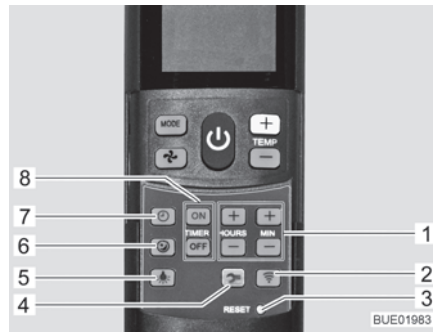

Fig. 149 Remote control with setting buttons (air conditioning unit)
Activating soft-start: ■ Press the soft-start button (Fig. 149,6). The fan then runs at low speed in cooling mode, which makes it especially quiet.
Setting the time: ■ Press the time button (Fig. 149,7).
■ Set the hours and minutes with the buttons (Fig. 149,1).
Programming the switching on time: ■ Press "ON" button (Fig. 149,8).
■ Press the buttons for setting the time (Fig. 149,1) until the desired time span until switch-on is reached.
■ Press "ON" button (Fig. 149,8).
Programming the switch-off time: ■ Press "OFF" button (Fig. 149,8).
■ Press the buttons for setting the time (Fig. 149,1) until the desired time span until switch-off is reached.
■ Press "OFF" button (Fig. 149,8).
Deactivating the timer: ■ Press the "ON" or "OFF" button (Fig. 149,8) again.
Switching on the lighting: ■ Press the light button (Fig. 149,5). The light is switched on at the last set dimming level.
Dimming the lighting: ■ Press the light button (Fig. 149,5) and keep it pressed until the desired brightness is reached.
Switching off the lighting: ■ Press the light button (Fig. 149,5).
▷ The Setup button (Fig. 149,4) is used to connect the remote control with the air conditioning unit during first set-up.